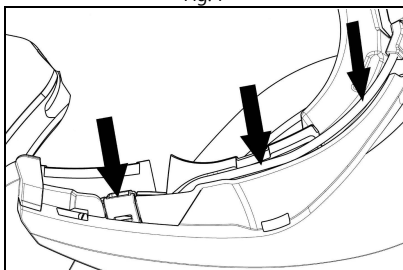

Fig. 9
- Fix the cable inside the helmet and make sure the right fixing clip snaps into its housing (Fig. 9)